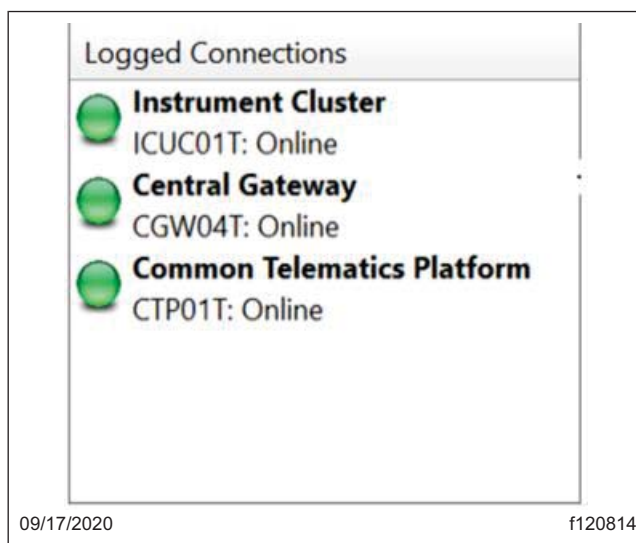

Fig. 42, DiagnosticLink Logged Connections Panel
16. Wait until all three controllers are fully connected and the connection indicators turn green. See Fig. 42.